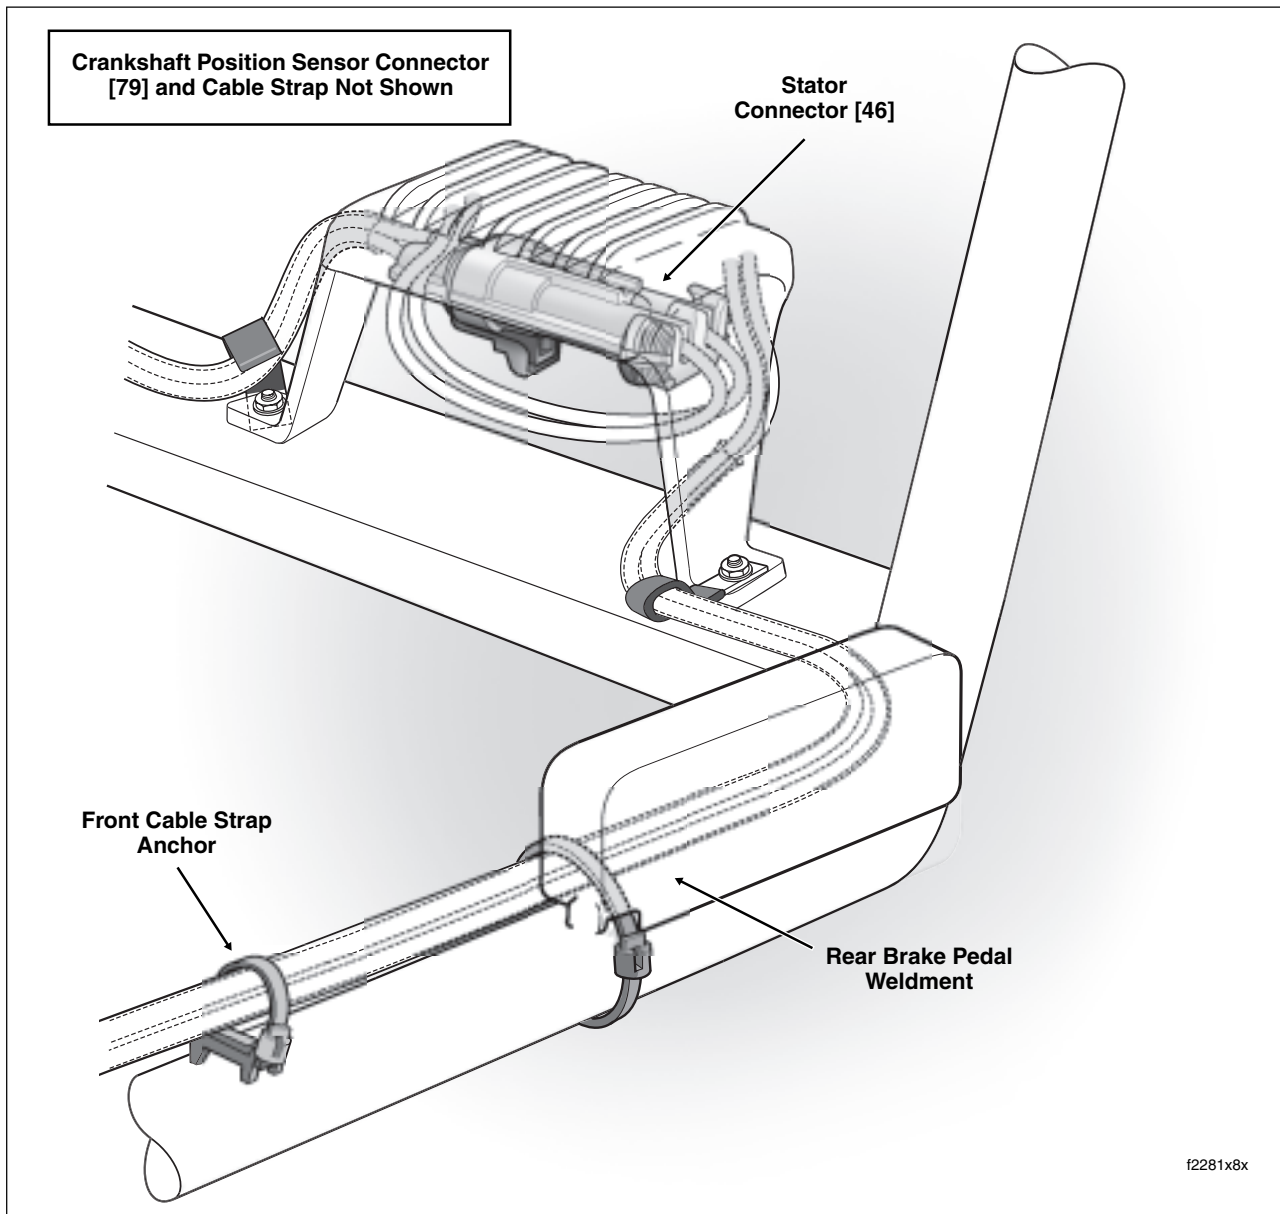

Figure 8-19. Voltage Regulator Cable Routing (Right Side View)
6. Route voltage regulator cables rearward following inboard side of lower frame tube. Capturing voltage regulator cables and lower frame tube, install **new** cable strap through opening in rear brake pedal weldment. See Figure 8-19. Cut any excess cable strap material.